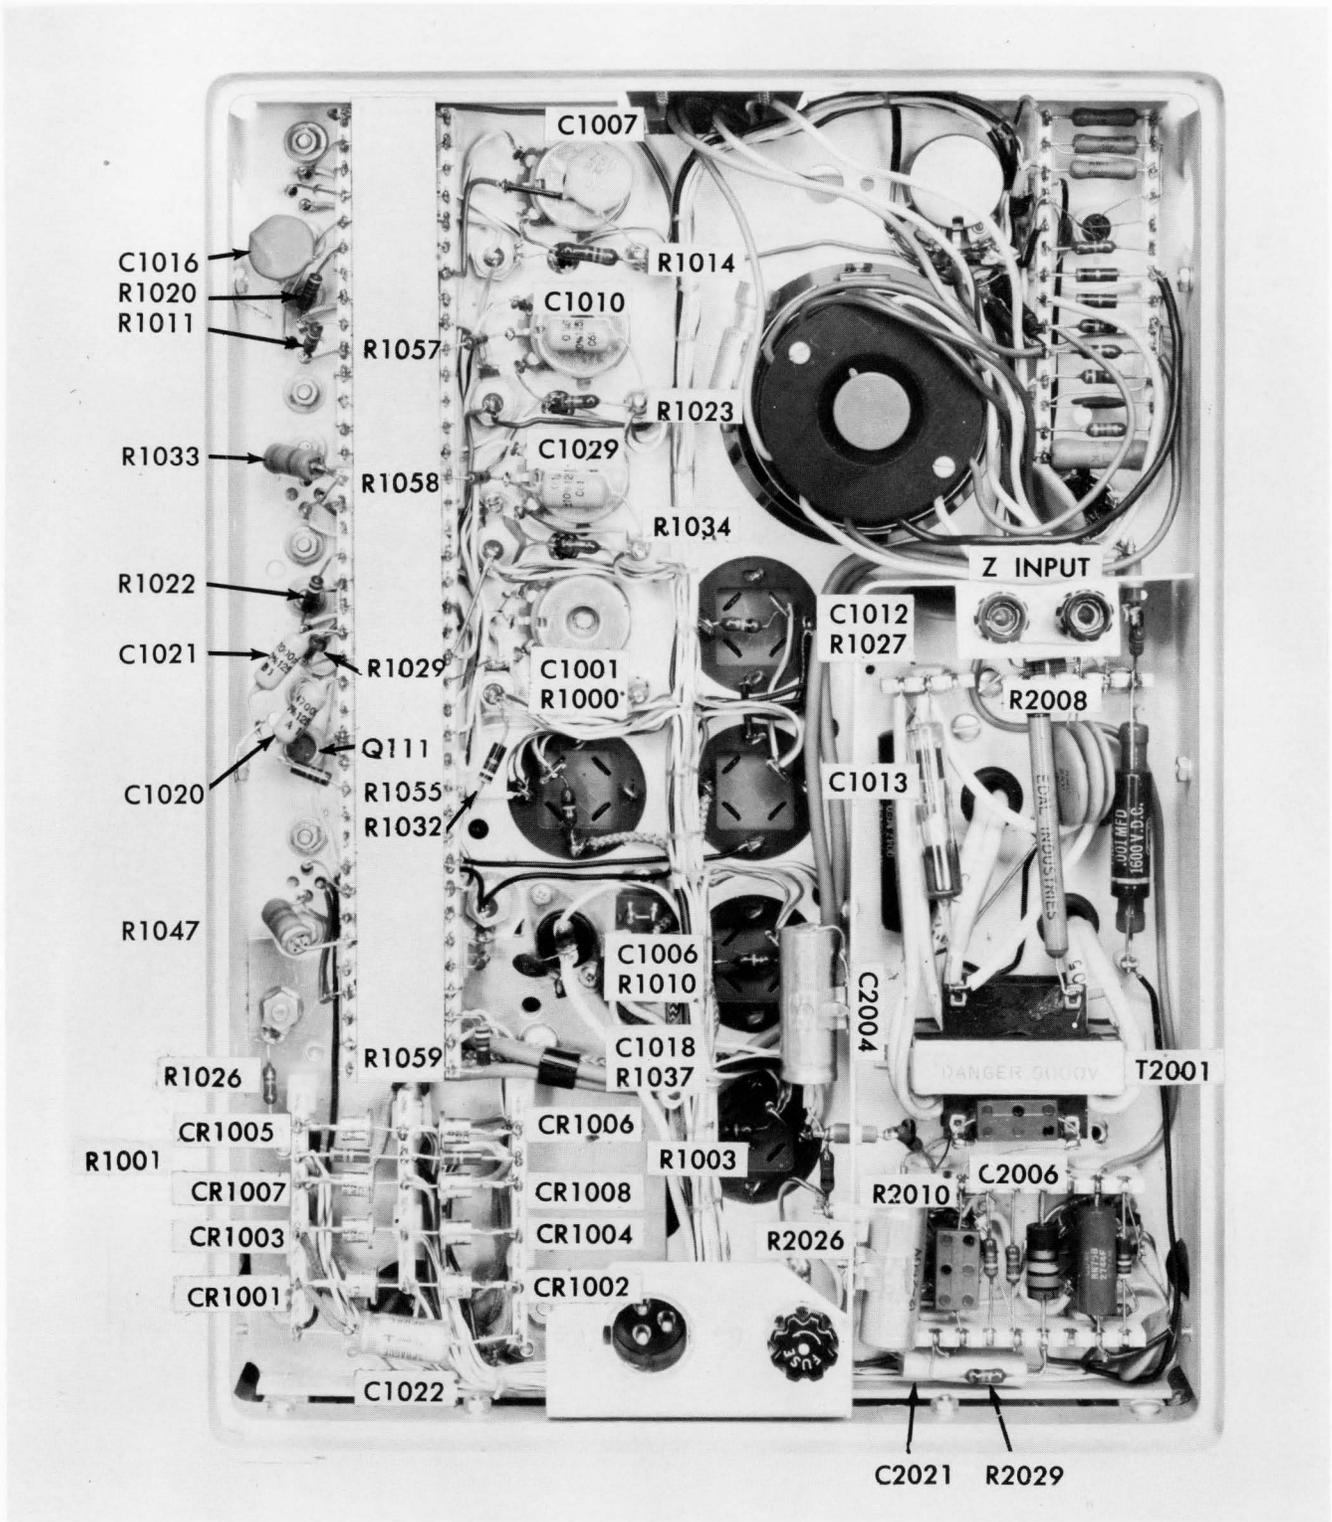

FIGURE 3-5. IDENTIFICATION OF REPLACEABLE COMPONENTS ON REAR CHASSIS
One cause of insufficient output voltage is low unregulated dc voltage which might be caused by an open or shorted rectifier diode. These diodes are identified on Figure 3-5 and are:
5. If there is excessive ripple on any of the unregulated supplies, replace the filter capacitor(s). These capacitors are identified on Figure 3-5 and are: